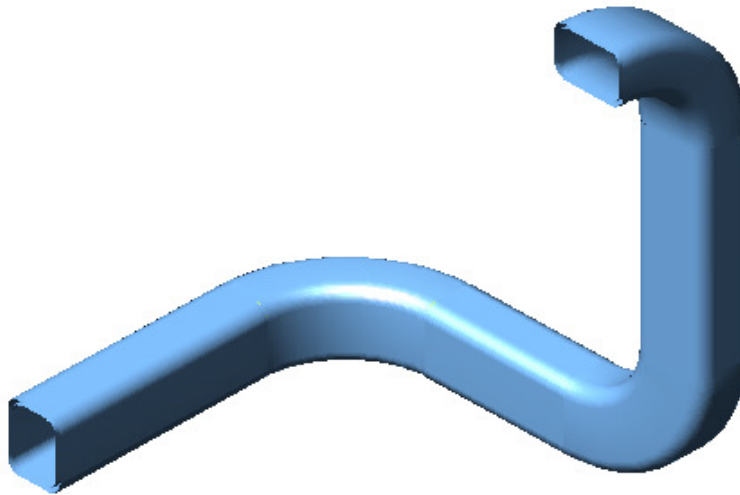

Figure Step 17
Step 17 Turn off layers: Model and Construction and your completed model will appear as shown in the figure. (Figure Step 17)